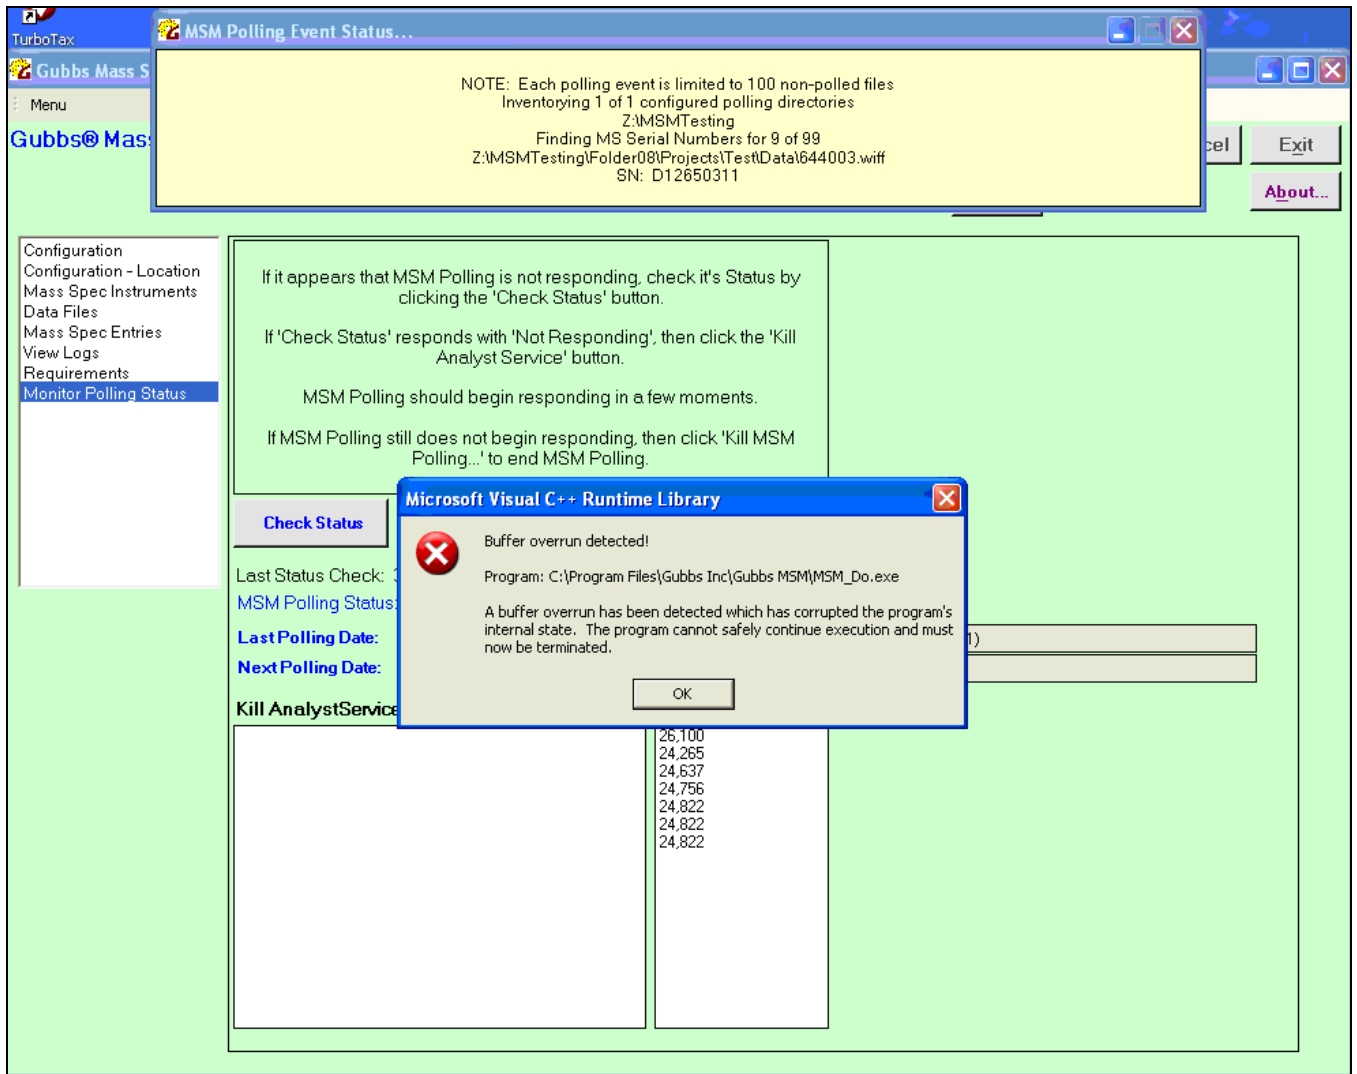

Figure 1 Example of raw file data retrieval error message box
- Errors can occur during raw file data retrieval, resulting in the interruption of the polling event and a message box displayed to the user (see Figure 1). Users have two options to proceed: